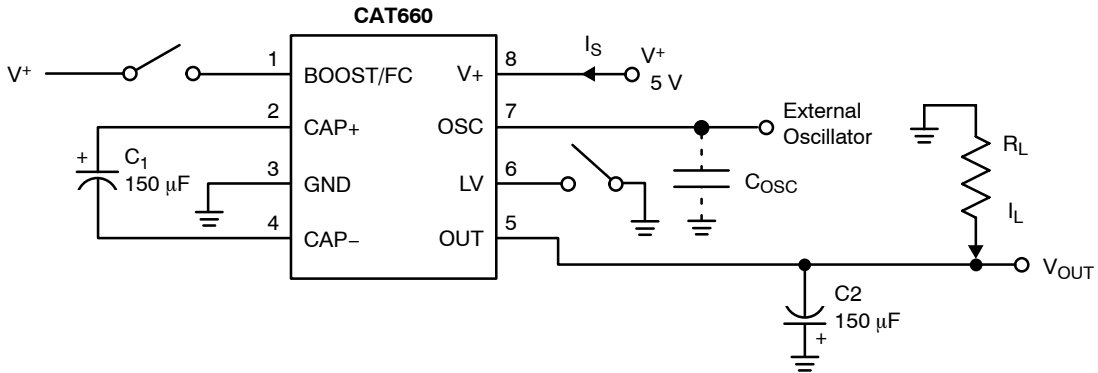

Figure 3. Test Circuit
Table 3. ELECTRICAL CHARACTERISTICS (V+ = 5 V, C1 = C2 = 150 µF, Boost/FC = Open, C_{OSC} = 0 pF, inverter mode with test circuit as shown in Figure 3 unless otherwise noted. Temperature is over operating ambient temperature range unless otherwise noted.)
- In Figure 3, test circuit capacitors C1 and C2 are 150 µF and have 0.2 Ω maximum ESR. Higher ESR levels may reduce efficiency and output voltage.
(Typical characteristic curves are generated using the test circuit in Figure 3. Inverter test conditions are: $V_+ = 5\text{ V}$, $LV = \text{GND}$, $\text{BOOST/FC} = \text{Open}$ and $T_A = 25^\circ\text{C}$ unless otherwise indicated. Note that the charge-pump frequency is one-half the oscillator frequency.)